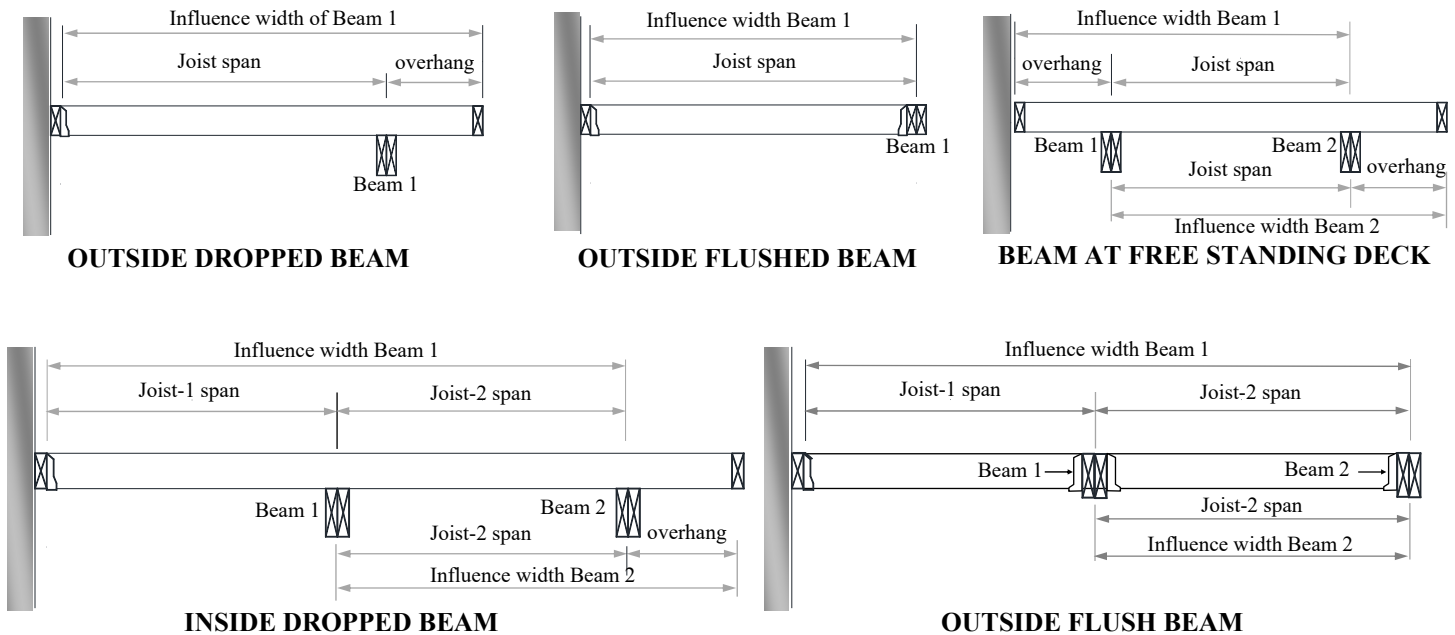

Figure 12: Beam Influence width
- Beam size is based on its influence width and longest span length per TABLE 3. Beam influence width, as shown in FIGURE 12, is based on supported joists' span lengths and overhang dimensions.